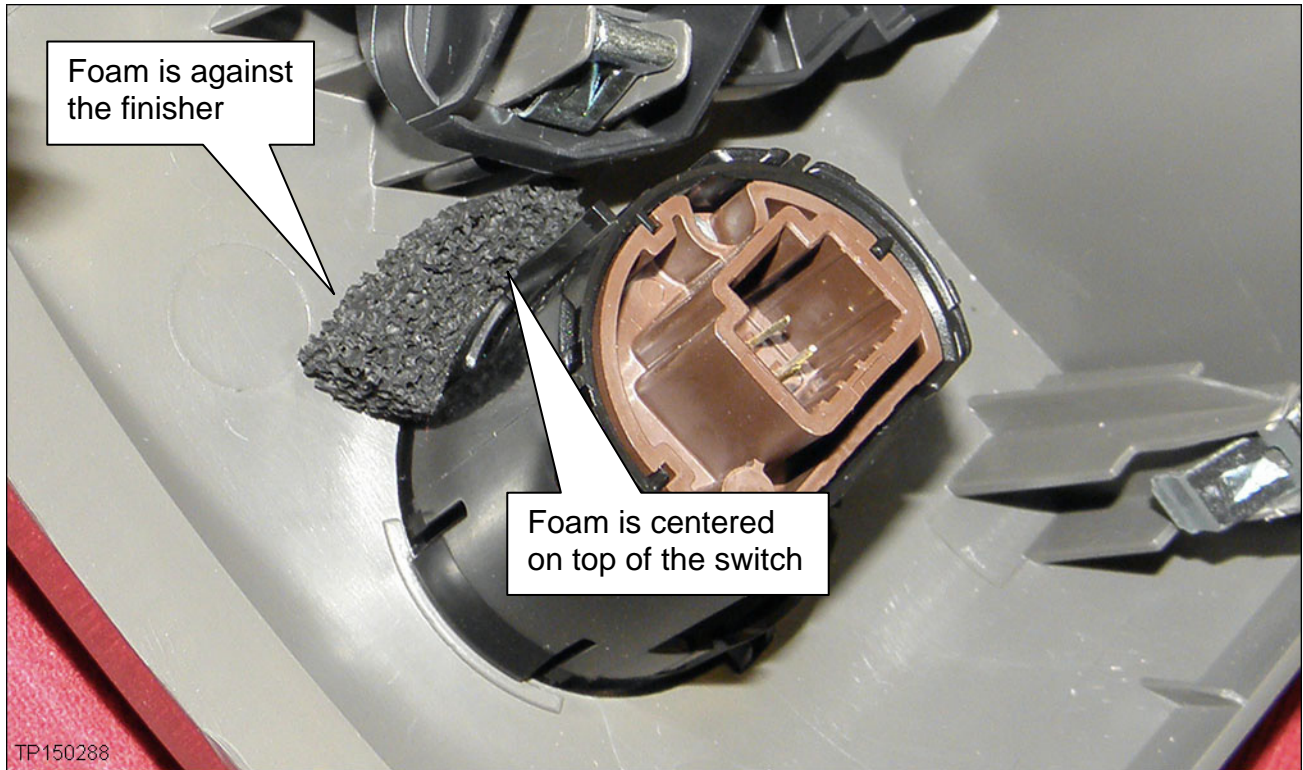

Figure M7
11. Apply the immobiliser foam seal to the top of the Engine Stop/Start Switch (see Figure M7).
- Stick the foam seal to the top center of the Engine Stop/Start Switch and against the finisher as shown in Figure M7.